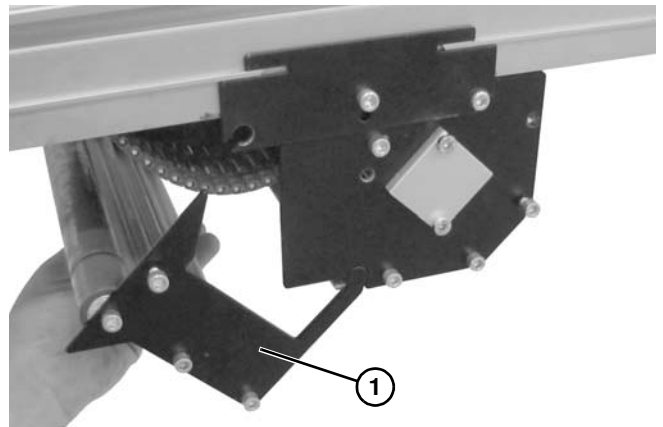

Figure 53
2. Lower bracket (**Figure 53, item 1**).